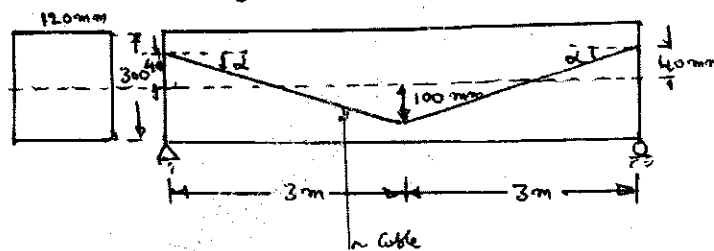

Fig.Q4(b)
b. The beam of uniform section is prestressed with a bent cable as shown below Fig.Q4(b), in which the initial prestress is 300 kN. Taking the loss ratio as 80%. Determine (14 Marks)